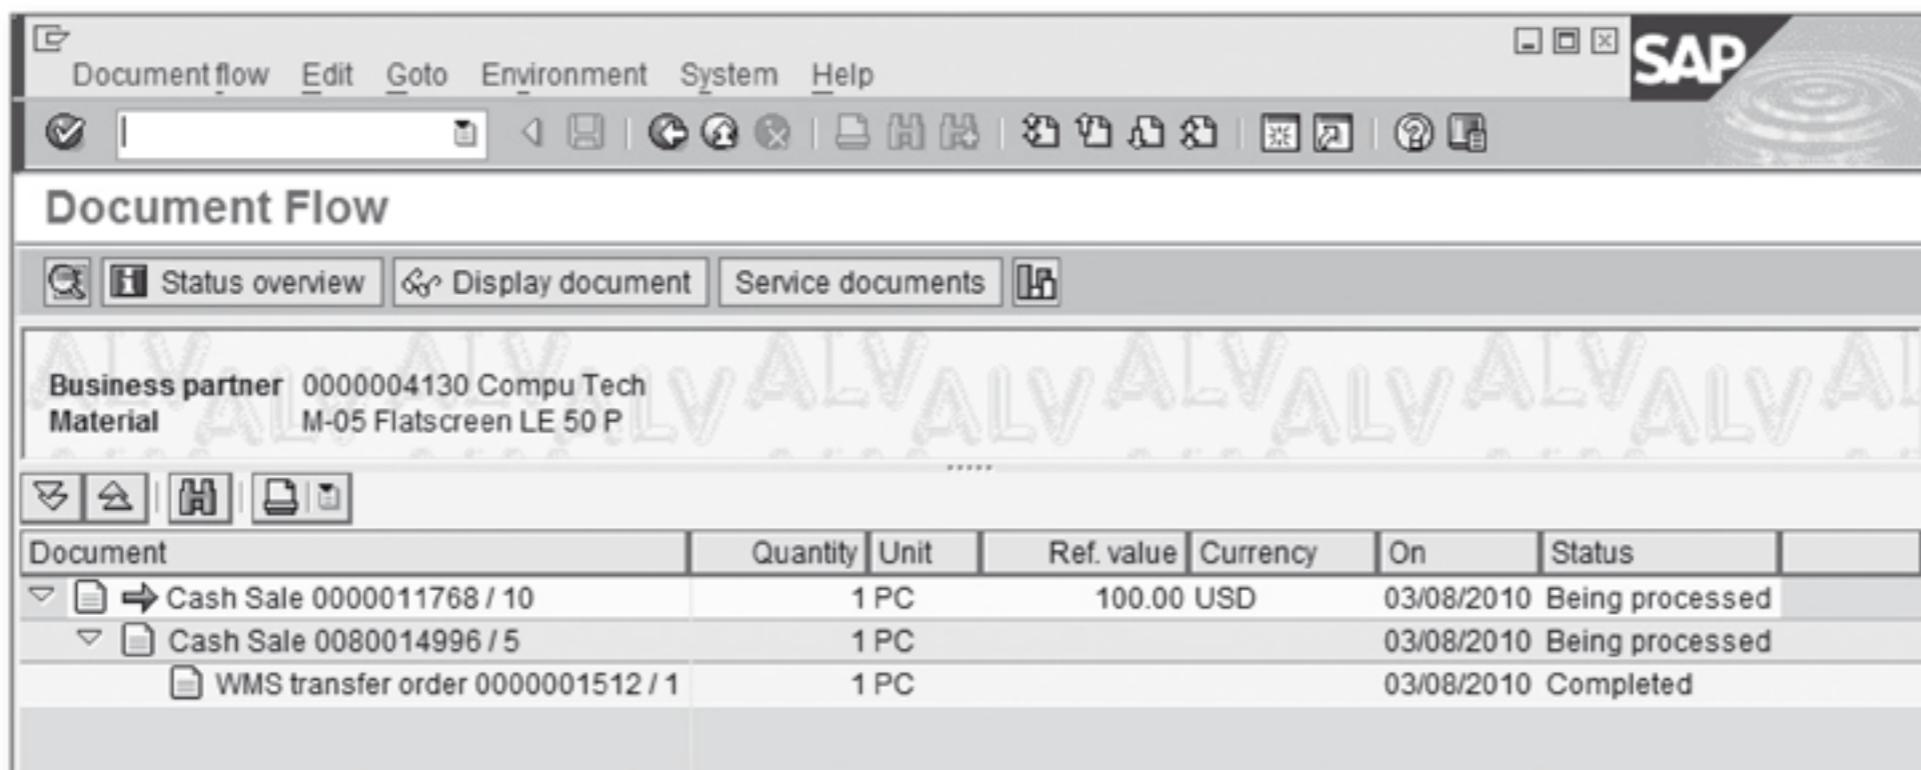

Figure 3.23 Cash Sale – Document Flow with Delivery and Transfer Order
5. Upon saving, the delivery document type BV is immediately created using the current system date for the delivery, and the billing dates and system issues output prints an invoice document as a receipt for your customer, as shown in Figure 3.23. You can see the sample of document flow showing Order and Delivery that was automatically created upon save.